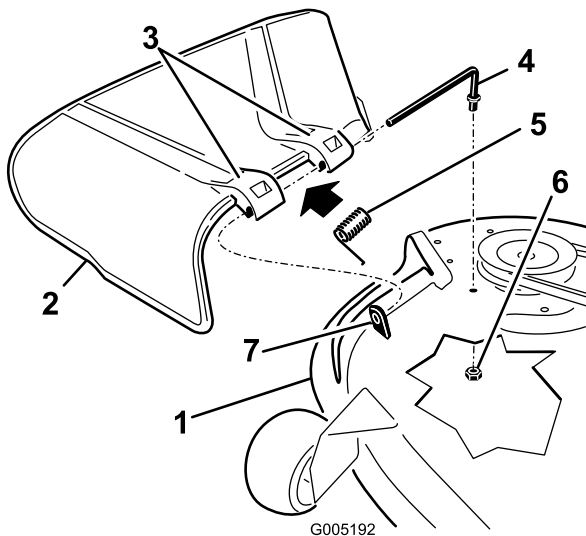

Figure 45
1. Locate items shown in Figure 45.
2. Remove the nut (3/8 inch) from the rod under the mower (Figure 45).
3. Slide the rod out of the short stand-off, spring, and grass deflector (Figure 45). Remove the damaged or worn grass deflector.
4. Replace the grass deflector (Figure 45).
6. Place the spring on the rod, with end wires down, and between the grass deflector brackets. Slide rod through second grass deflector bracket (Figure 45).
7. Insert rod at front of grass deflector into short stand-off on deck. Secure rear end of rod into the mower with a nut (3/8 inch) (Figure 45).